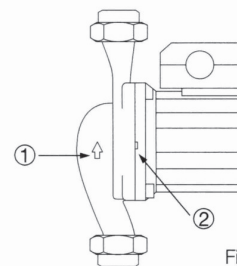

Fig. 2
- The directional marker on the pump housing shows the direction of flow (Fig. 2, pos. 1).